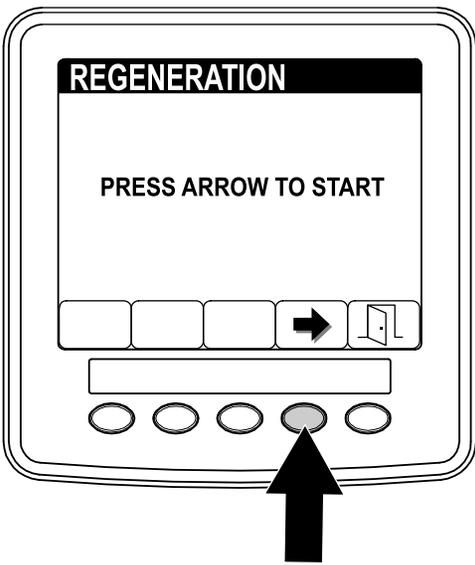

Figure 68
3. On the regeneration screen, press button 4 to start the regeneration process (Figure 68).